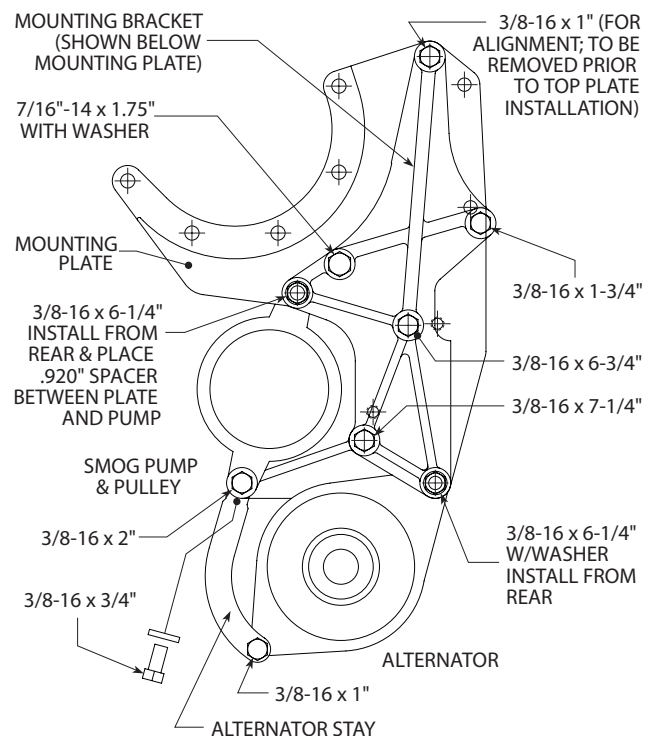

Fig. 1-a
- D. Start the 3/8-16 x 1" fastener with a washer at the top of the bracket and finger tighten. Insert the 6-3/4" and 7-1/4" bolts. These bolts will later hold assembly to engine. (See Fig. 1-a.)
- F. Tighten all fasteners in the bracket/accessory assembly. (See Fig. 1-a.)